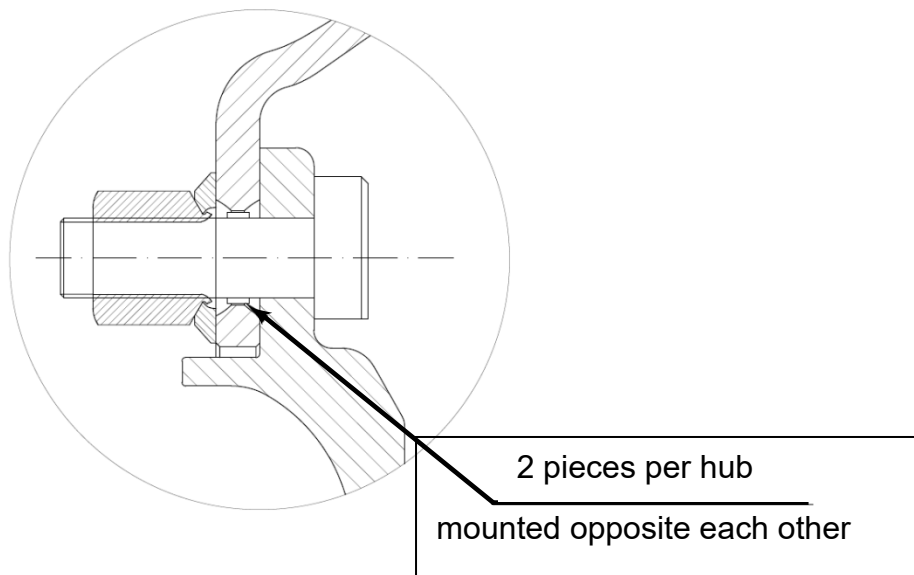
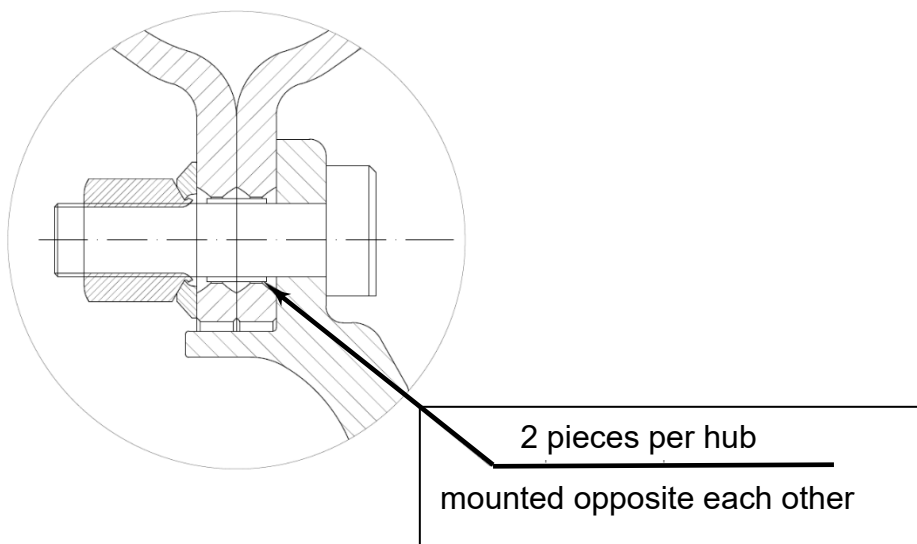

Fig. 5 Mixed centering with two sleeves on single wheel attachment
Fig. 6 Mixed centering with two sleeves on dual wheel attachment
2.3.2. Flat nuts may only be used on mixed-centered wheels when two centering sleeves per hub are installed, positioned opposite each other, as defined in DIN 74361. This is illustrated in Figure 5 and Figure 6.